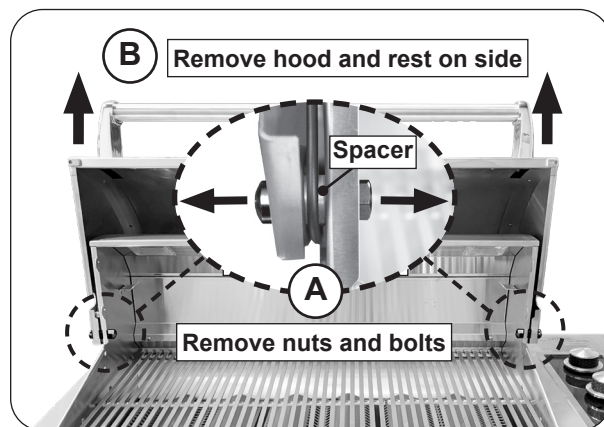

Fig. 41-2 Remove hood
3. Remove oven hood bolts and nuts from both sides as shown in Fig. 41-2, A.
4. **Using two people,** carefully lower the hood (slightly) to free the spring from the spring mount (on left side), then carefully lift the oven hood from the grill and remove completely (Fig. 41-2, B). Rest the hood on a soft surface.
Note: Be careful with the spacers while the hood is being removed. Remove the spacers once the hood is completely freed from the grill. Reference Fig. 41-2.